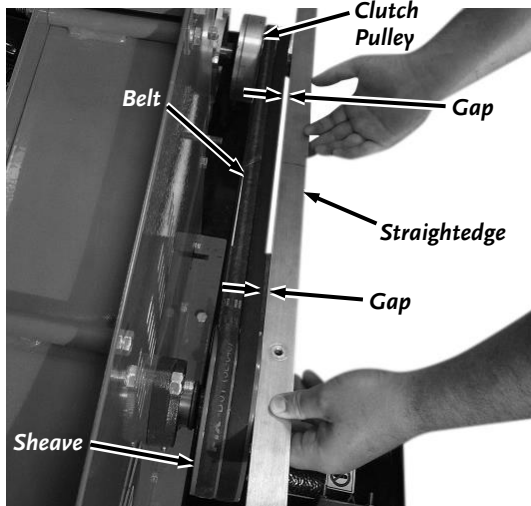

Figure 45
3. Check the alignment of the Clutch with the Sheave by placing a Straightedge flat across the Sheave outer surface and position the other end of the above (not touching) the face of the Clutch Pulley (**Figure 45**).